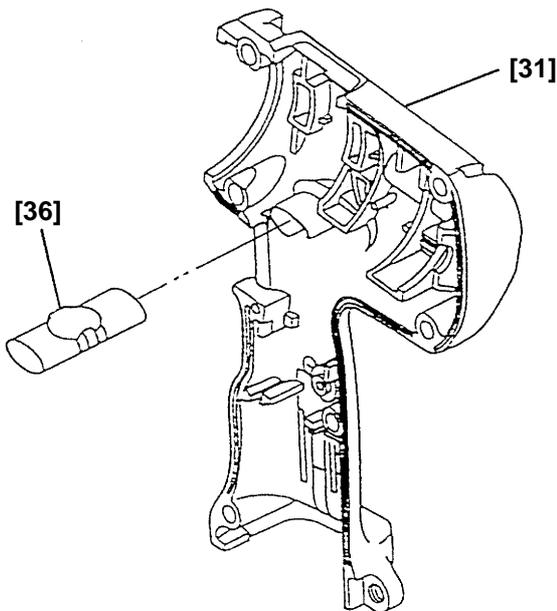

Fig. 14
(5) Installation of the assembly reassembled in step (3) into Housings (A) and (B) [31]
(a) Install the Pushing Button [36] into Housing (B) [31]. (See Fig. 14.)